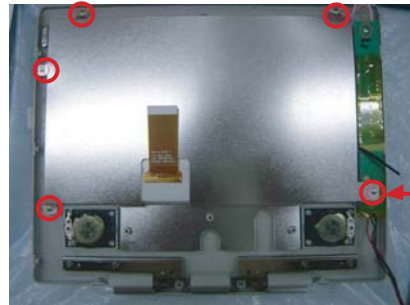

Fig.11
8. Remove 5 screws to disassemble LCD shield as Fig.11